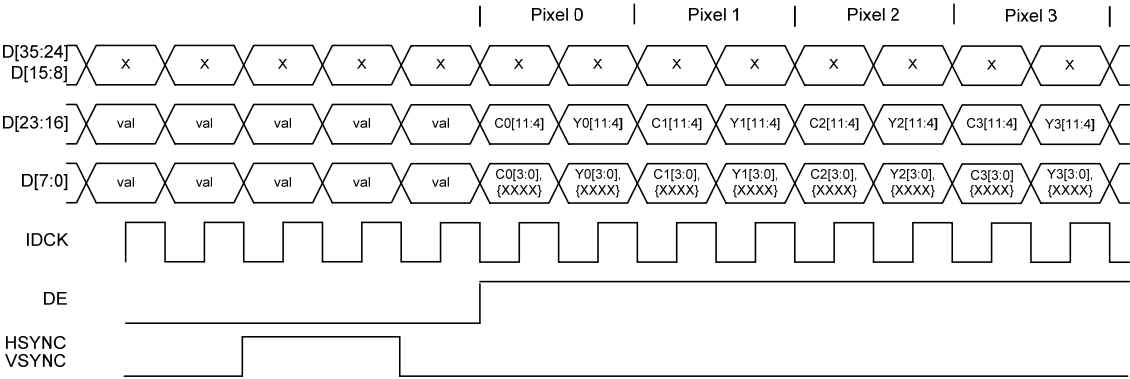

Figure 32. YC Mux 4:2:2 Timing Diagram
The video data is multiplexed onto fewer pins than the mapping in Table 25, but a luma (Y) is provided for each pixel, and either a Cb or a Cr value for each pixel, since the clock rate is doubled. Figure 32 shows the 12-bit mode. The 10- and 8-bit mappings use fewer input pins for the pixel data. Note the explicit syncs.